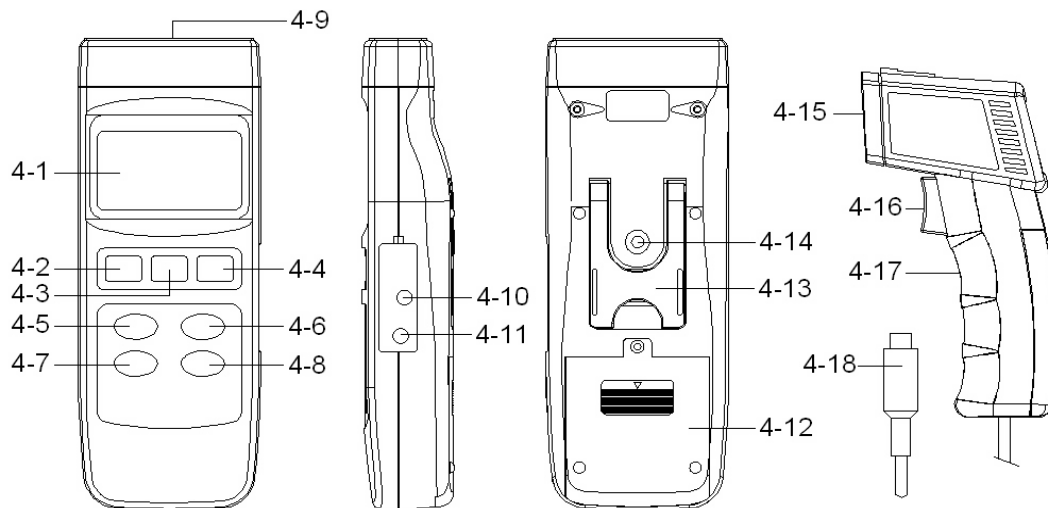

Fig. 1
- 1) Connect the " Probe plug " ( 4-17, Fig. 1 ) to the " Input socket " ( 4-9, Fig. 1 ).
- 2) Switch ON the meter by pressing the " Power button " ( 4-2, Fig. 1 ), the display will show zero value both for RGB unit.
- 3) Use the hand to hold " Probe handle " ( 4-17, Fig. 1 ). Contact the " Color sensor head " ( 4-15, Fig. 1 ) close to the measurement sample firmly.
Press the " OP button " ( 4-16 or 4-3, Fig. 1 ) once, the display will show the symbol " Mesu ", waiting few seconds the display will show R,G,B value. After the R,G,B value present on the LCD, the measuring procedures are finished, the hand can move away from the probe handle.
If intend to get the H,S,L ( Hue, Saturation, Luminance ) value, just press the " RGB/HSL button " ( 4-7, Fig. 1 ) once, the display will show H,S,L value.
***For no lighting sample color measurement, when press the " OP button " ( 4-16 or 4-3, Fig. 1 ) once, the " Color sensor head " ( 4-15, Fig. 1 ) should turn on the white light.***
- b. Press the 'LIGHT ON/OFF button " ( 4-8, Fig. 1 ) once.
- 1) Press the " OP button " ( 4-16 or 4-3, Fig. 1 ) once to check if the " Color sensor head " already switch off the white light.
- 2) Power ON the meter, use the hand to hold " Probe handle " ( 4-17, Fig. 1 ). Contact the " Color sensor head " ( 4-15, Fig. 1 ) close to the measurement lighting sample firmly.
- 3) Press the " OP button " ( 4-16 or 4-3, Fig. 1 ) once, the display will show the symbol " Mesu ", waiting few seconds the display will show R,G,B value. After the R,G,B value present on the LCD, the measuring procedures are finished, the hand can move away from the probe handle.
If intend to get the H,S,L value, just press the " RGB/HSL button " ( 4-7, Fig. 1 ) once, the display will show H,S,L value. Press the " RGB/HSL button " once again, display will return to R,G,B value.
- 1) During the measurement, after the display show R,G,B value ( H,G,L value ), if press the " REL (Relative) button " ( 4-6, Fig. 1 ) once, the display will show zero value with flashing.
- 2) If make the new measurement ( same as chapter 5-1 ), then press the " OP button " ( 4-16 or 4-3, Fig. 1 ) once, the display will show the relative difference color value ( new color value deduct the original color value ) with flashing.
- 3) Press the " REL (Relative) button " ( 4-6, Fig. 1 ) once again, the display will return to normal function.
- 3) Use the hand to hold " Probe handle " ( 4-17, Fig. 1 ).
Contact the " Color sensor head " ( 4-15, Fig. 1 ) close to the " White color calibration card " firmly.
- 4) Press both the " Function button " ( 4-4, Fig. 1 ) and " CAL button " ( 4-5, Fig. 1 ) once a while.
The instrument has RS232 PC serial interface via a 3.5 mm terminal ( 4-10, Fig. 1 ).